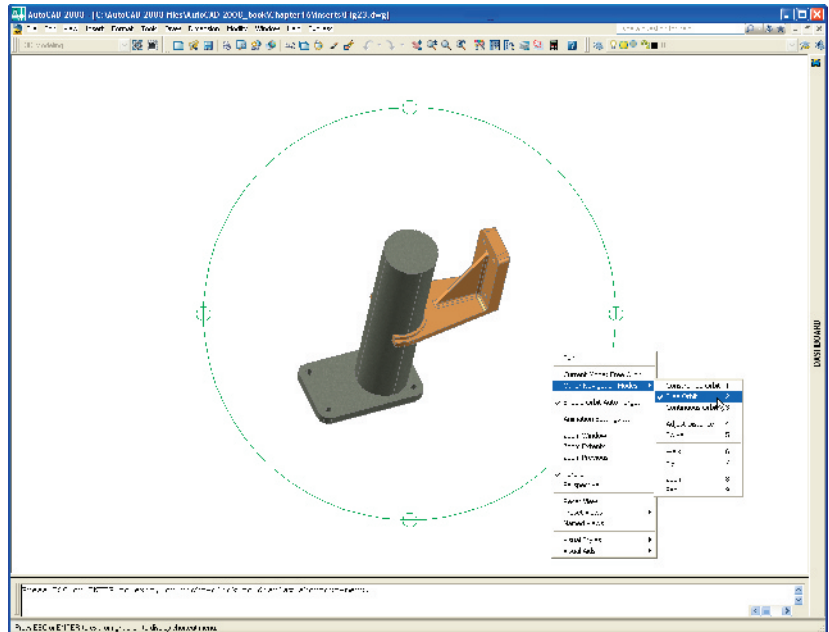

Fig. 16.27 Example – 3dorbit
6. With the cursor inside any one of the small quadrant circles the 3D model can be moved vertically or horizontally as the mouse is moved (Fig. 16.27).